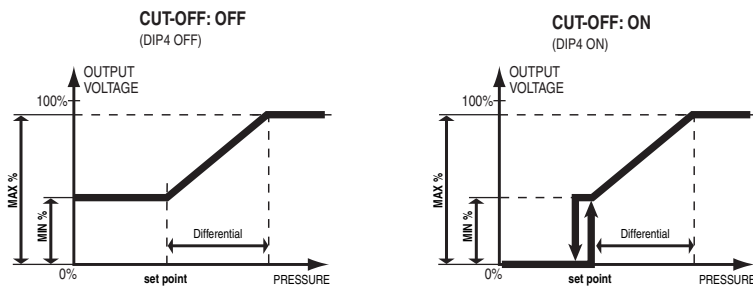

Fig. 4
- Cut-OFF function (see Fig. 4) enabled by dipswitch;